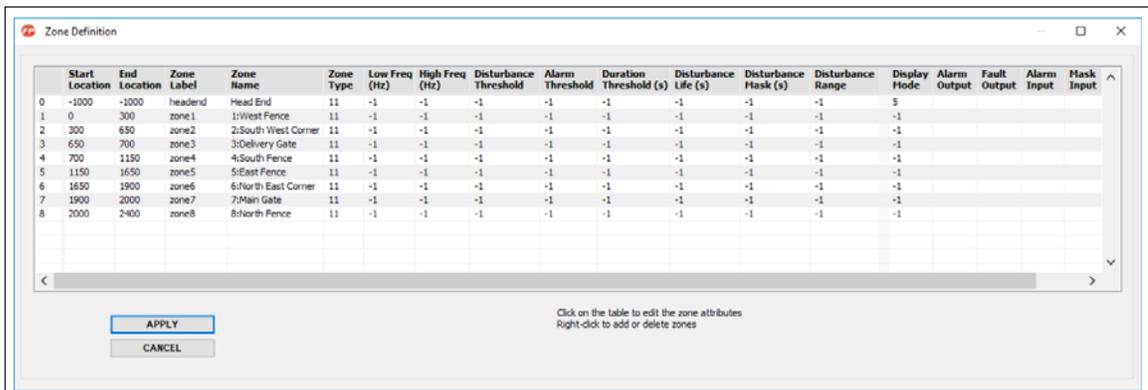

Figure 45 Zone Definition window
3. To adjust the Sensitivity settings for an individual zone, open the Manage menu, and select Zone Definition (see Figure 45).